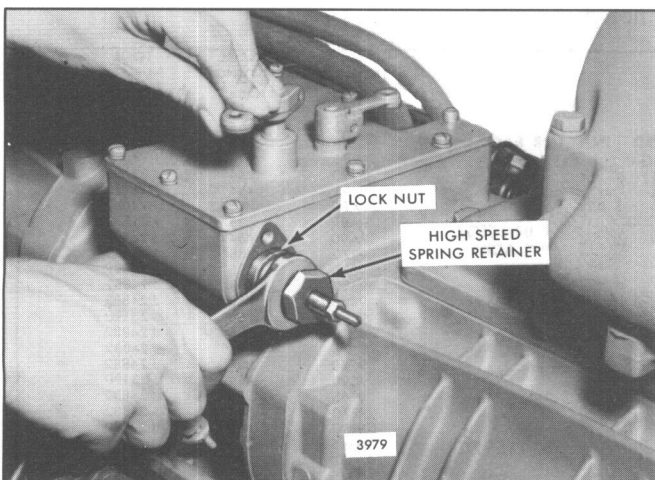

Fig. 8 – Adjusting Maximum No-Load Speed
- Loosen the spring retainer locknut and back off the high-speed spring retainer approximately five turns (Fig. 8).